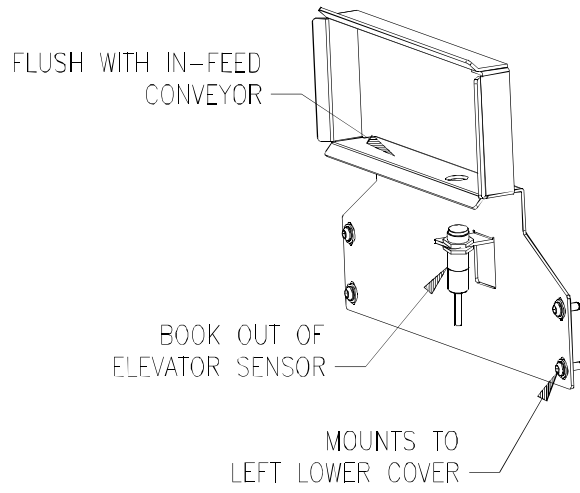

Figure 2-7. In-Feed Bracket
2. Remove the front cover of the trimmer and locate the loose photoelectric sensor. Remove the nuts from the sensor and push the sensor through the split bushing in the left side of the trimmer's base. Attach the sensor as shown in Figure 2-7. Attach the optional bar code scanner and sensor if applicable.